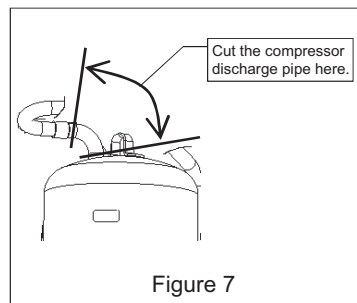

Figure 7
- (7) Remove the compressor discharge pipe by cutting the pipe where indicated in Figure 7 or by removing the braise.